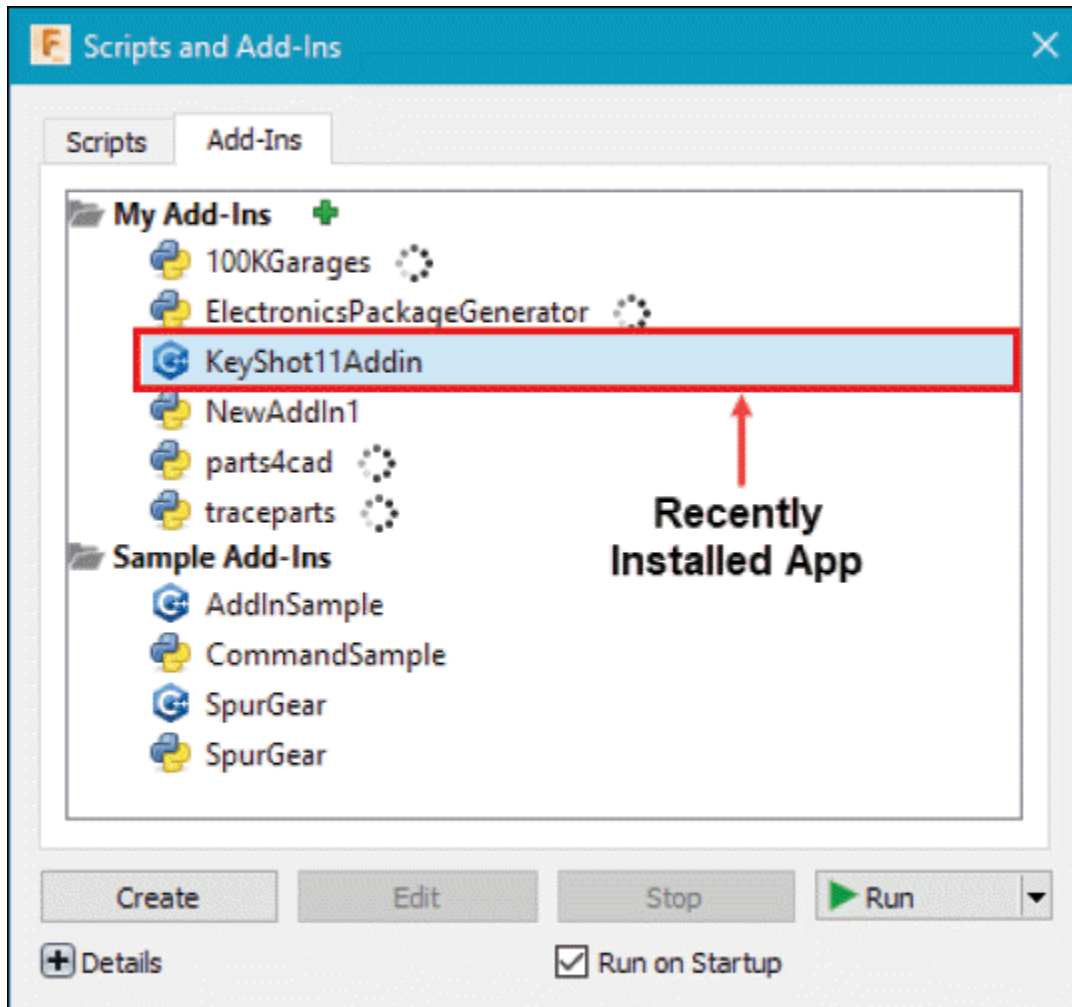

Figure-86. Installed App
- Once the app is installed, you can access it from **Add-Ins** tab of **Scripts and Add-Ins** dialog box; refer to Figure-86.